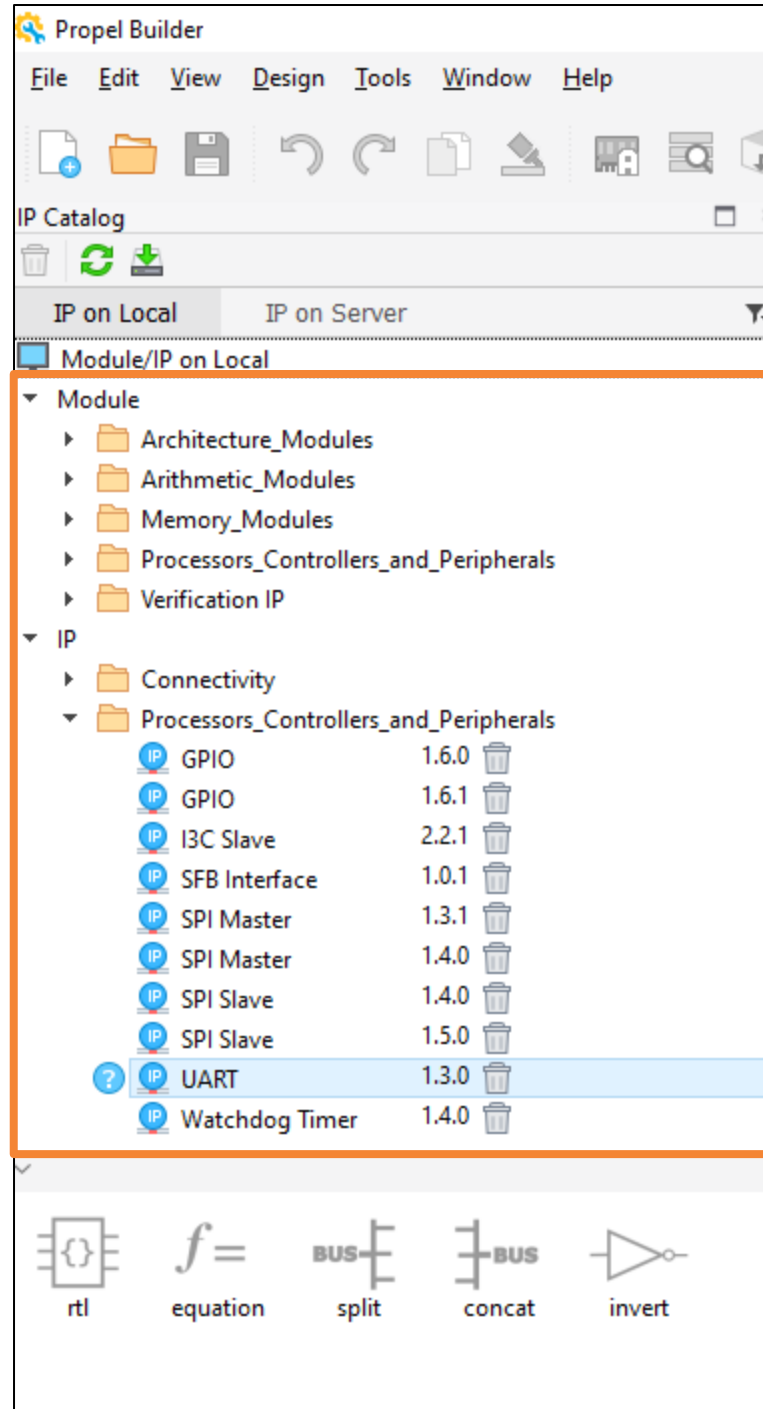
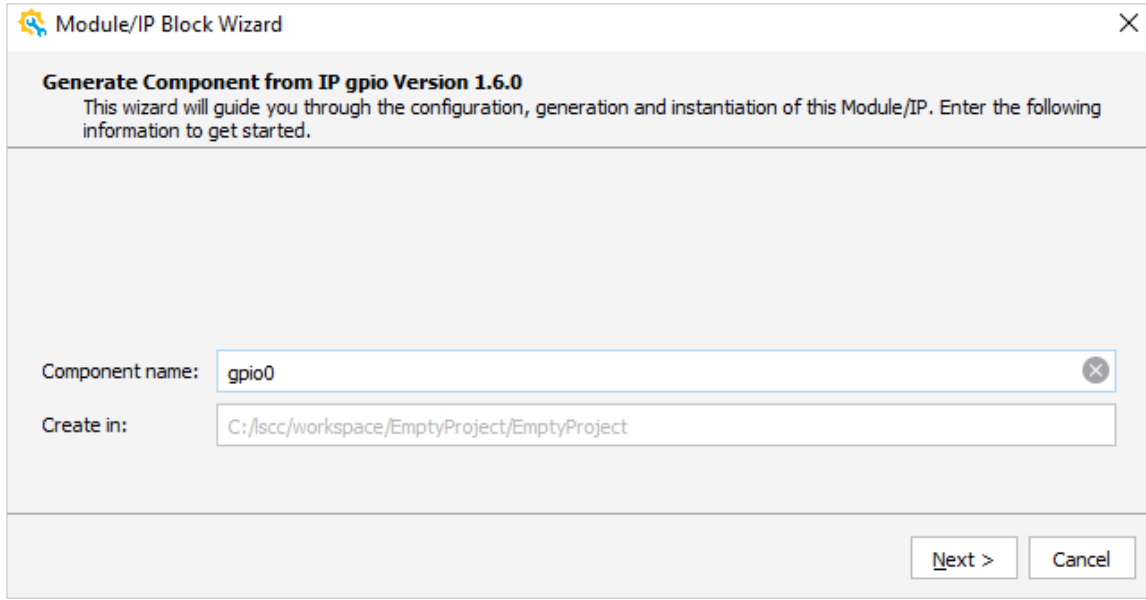

Figure 2.42. IP Catalog
Figure 2.43. Module/IP Block Wizard – Generate Component from Module gpio Version 1.6.0
1. Being installed successfully, the new IP is shown in the **IP on Local** tab (Figure 2.42).
- From the **IP on Local** tab (Figure 2.42), select a desired IP, such as GPIO. **Double-click** the IP module, or drag and drop the IP module to the **Schematic** view. A Module/IP Block wizard pops up (Figure 2.43).